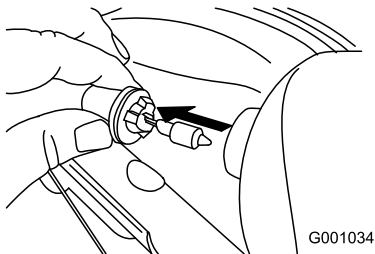

Figure 47
3. Remove the bulb straight out from the back of the headlight (Figure 47).